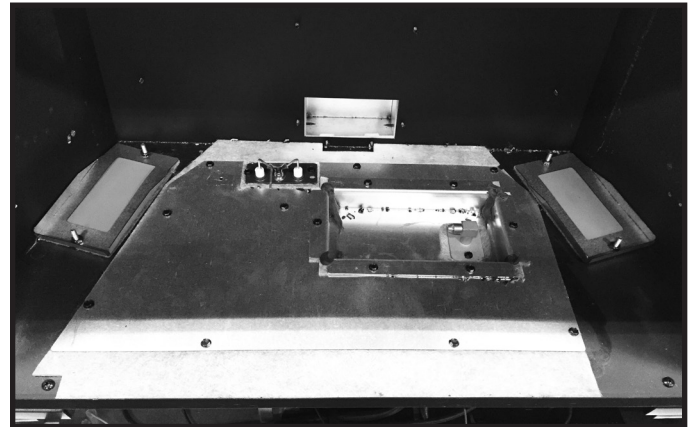

Figure 10
6. Place one light glass hold down over each piece of accent glass with the ember rock lip towards the front of the appliance. See Figure 10.